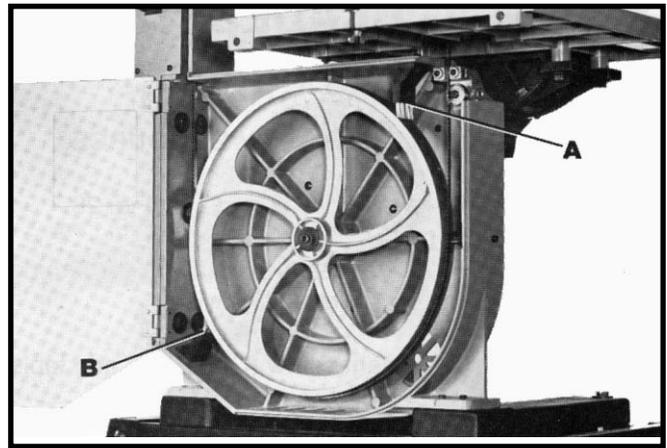

Fig. 31
Two blade brushes (A) and (B) Fig. 31, are provided to keep the blade and tires clean and free of any build-up of chips. Brush (A) cleans the tire and brush (B) cleans the blade. Adjustment of the brushes can be made by loosening the mounting hardware and adjusting the brushes accordingly.